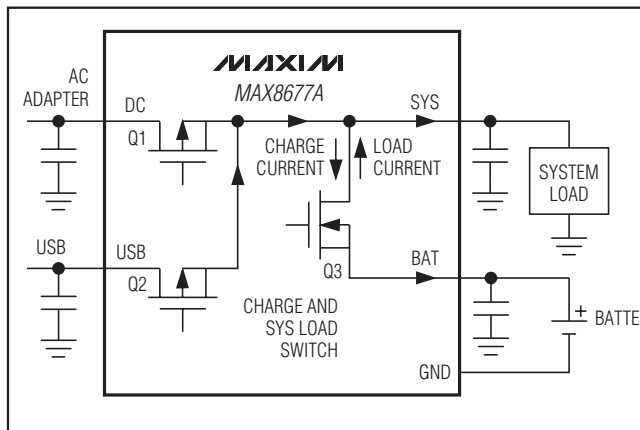

Figure 4. Smart Power Selector Block Diagram
The MAX8677A Smart Power Selector seamlessly distributes power between the external inputs, the battery, and the system load (Figure 4). The basic functions performed are:
An internal 40mΩ MOSFET connects SYS to BAT (Q3, Figure 4) when no voltage source is available at DC or USB. When an external source is detected at DC or USB, this switch is opened and SYS is powered from the valid input source through the input limiter.
The input voltage limiter is essentially an LDO regulator designed to run in dropout. While in dropout, the regulator dissipates a small  $I^2R$  loss through the  $0.2\Omega$  MOSFET (Q1, Figure 4) between DC and SYS. With an AC adapter or USB source connected, the input limiter distributes power from the external power source to the system load and battery charger. In addition to the input limiter's primary function of passing power to the system and charger loads at SYS, it performs several additional functions to optimize use of available power:
- **Input Voltage Limiting.** If an input voltage is above the overvoltage threshold (6.9V typ), the MAX8677A enters overvoltage lockout (OVLO). OVLO protects the MAX8677A and downstream circuitry from high-voltage stress up to 14V at DC and 8V at USB. In OVLO, VL remains on, the input switch that sees overvoltage (Q1, Q3, Figure 4) opens, and the appropriate power-monitor output ( $\overline{DOK}$ ,  $\overline{UOK}$ ) is high impedance, and  $\overline{CHG}$  is high impedance.
If both DC and USB see overvoltage, both input switches (Q1 and Q2, Figure 4) open and the charger turns off. The BAT-SYS switch (Q3, Figure 4) closes, allowing the battery to power SYS.
An input is also invalid if it is less than BAT, or less than the DC undervoltage threshold of 3.5V (falling). With an invalid input voltage, SYS connects to BAT through a  $40m\Omega$  switch (Q3, Figure 4).
The total current through the switch (Q1 or Q2 in Figure 4) is the sum of the load current at SYS and the battery charging current. The limiter clamps at 5.3V, so input voltages greater than 5.3V can increase power dissipation in the limiter. The limiter power loss is  $(V_{DC} - 5.3) \times I$ , but not less than  $I^2 \times 0.2\Omega$ . Also note that the MAX8677A turns off any input that exceeds 6.9V (nominal).